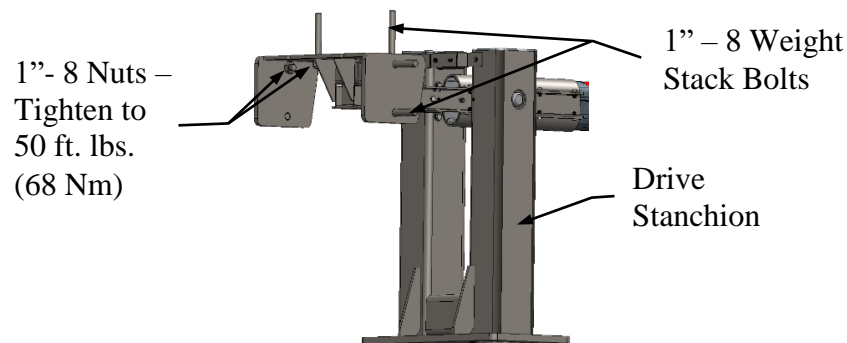

Figure 8 - 773MD Counterbalance Assembly (weights not shown for clarity)
- 4.3.8.1. Check the 1” (25 mm) nuts holding the counterbalance weights. If loose, tighten to 50 ft. lbs (68 Nm). See **Figure 8 - 773MD Counterbalance Assembly** (*weights not shown for clarity*).